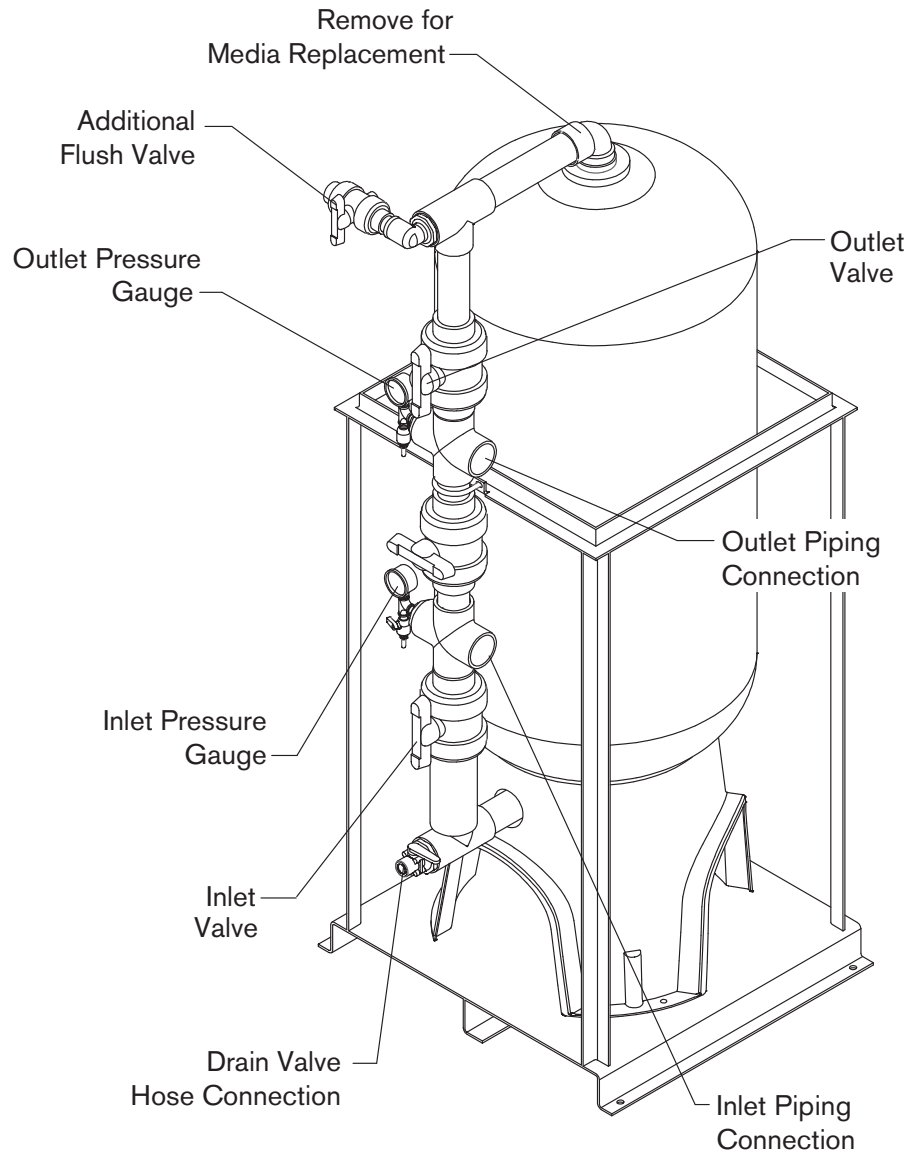

Figure 2
- 2 Connect the carbon filter (if present) to your potable water supply. The carbon filter will need to be flushed for 30 minutes before being piped into WaterGard. Use the garden hose connection in **Figure 2** to flush the carbon tank. To flush, reverse the flow through the tank. Multiple flushes may be needed if pressure drops below 30 psi.